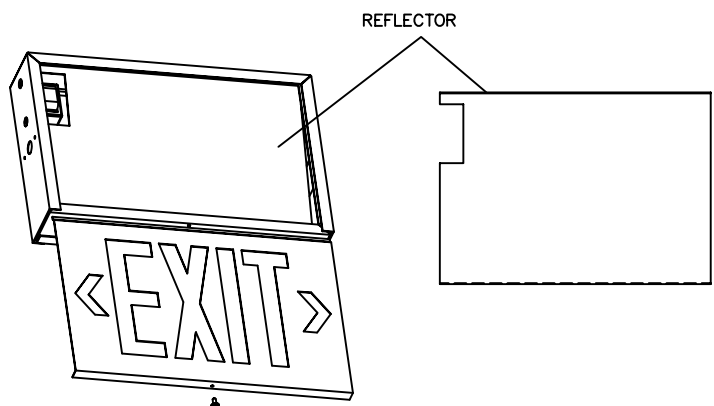

FIGURE 2. (Single Face Red LED Exit Only)
3. Remove reflector, if applicable. (See Figure 2)
(See Figure 2)